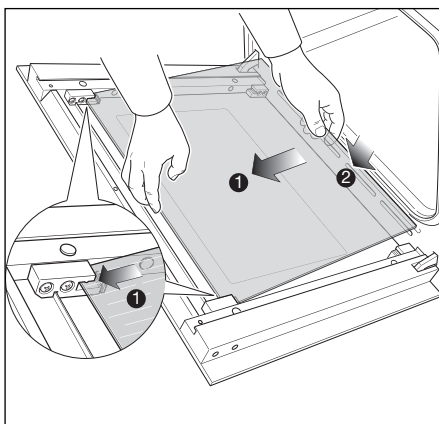
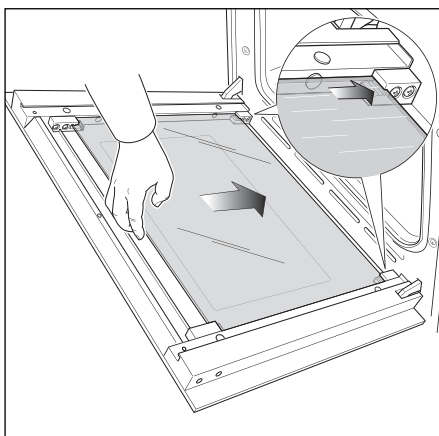

Fig.53b
Fig.53c
- Gently insert the top edge of the pane into the top clamps (arrow 1 in Fig. 53b), then lower the pane and insert the bottom edge into the bottom clamps (arrow 2 in Fig. 53b); and then slide the pane into position (Fig. 53c).